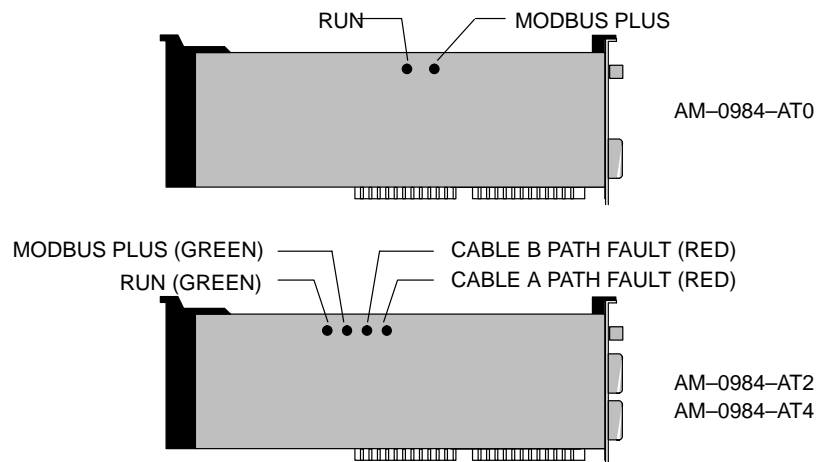

Figure 13 AT-984 LED Indicators
- Step 8** Reconnect the computer power cable, and power up the computer, and verify normal operation with the board installed. The MODBUS PLUS LED will flash a repetitive pattern indicating the status of the node on the network. Figure 13 shows the location of the LED. Section 2.8 describes the meaning of the LED patterns.
- Step 9** Reinstall the computer cover. The LED displays are not visible with the cover on, so you may want to remove the cover again to view the RUN LED when you implement your user logic application program on the AT-984. Figure 13 shows the location of the LED.